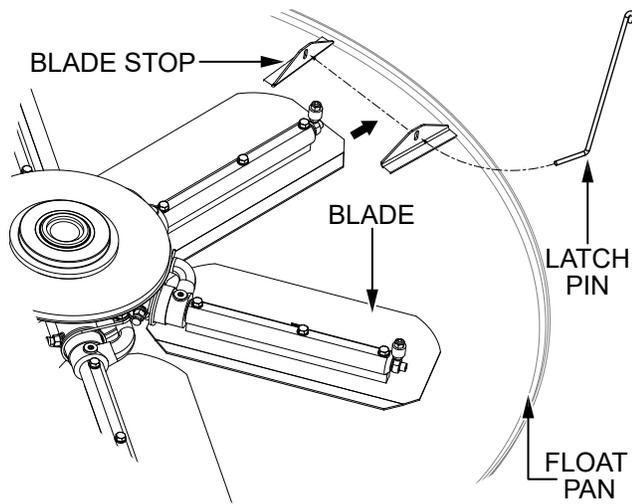

Figure 31. Float Pan Installation
2. Lift the trowel just enough to slide a **float pan** under the **blades**. Lower the finisher onto the pan with the blades between the **blade stops** (Figure 31).
3. Route a **latch pin** through the holes in the blade stops as shown in Figure 31.